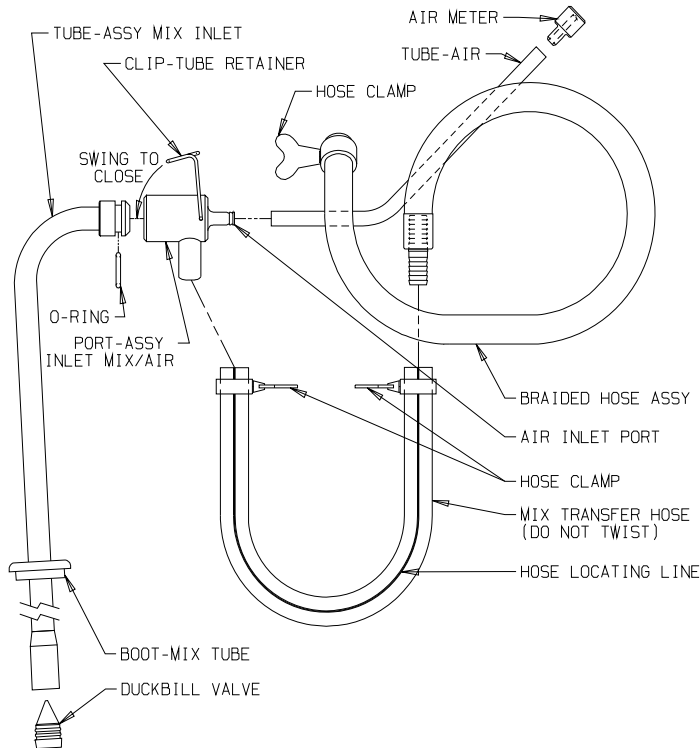

Figure 7-5 MTS Hose Assembly
14. Assemble the MTS hose assembly as shown in figure 7-5. The transfer hose has a red locating line. Install the hose on the port assembly so the locating line is facing out. Secure the hose with the clamp. Finger tighten only! The thumbscrew must lay parallel to the mix/air inlet port.